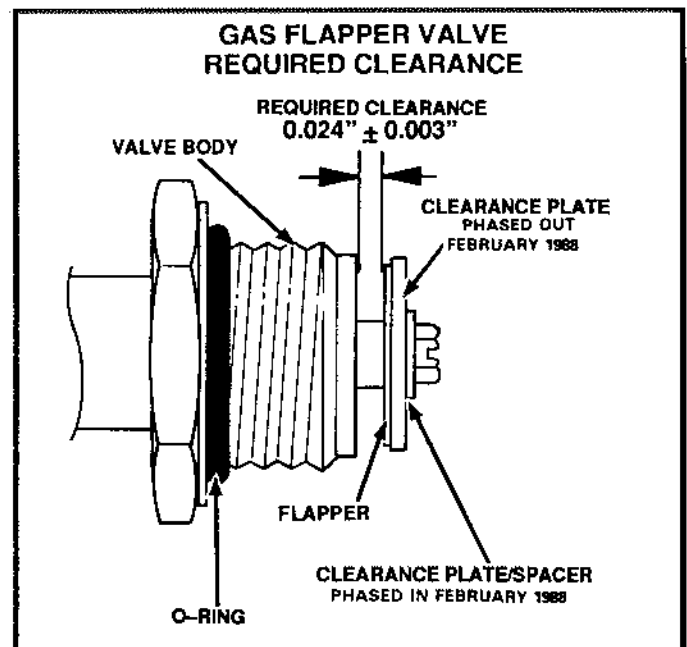

FIGURE 34
- 4- Check for the required clearance between the flapper and valve body. Required clearance values for G14 units are updated regularly in the Service and Application notes. Use a feeler gauge, starting small and working up to the clearance dimensions until the gauge is just about snug. BE VERY CAREFUL NOT TO DAMAGE THE FLAPPER MATERIAL BY FORCING THE GAUGE. The clearance should be checked around the valve in several places. If the valve is out of the required clearance dimension given in figure 34 at any point around the valve, it must be replaced.